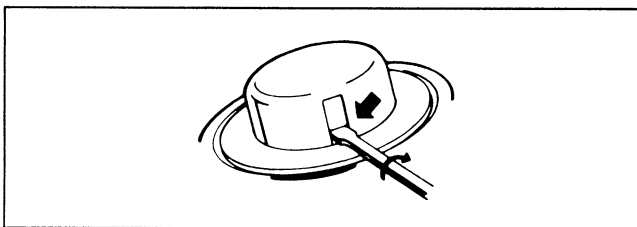

Figure 15
1. (Fig. 15) To remove empty spool, insert widest possible blade screwdriver snugly into one of two window slots on the spool hub. With screwdriver pressed firmly into window slot, twist screwdriver 1/4 turn. Spool will snap off.